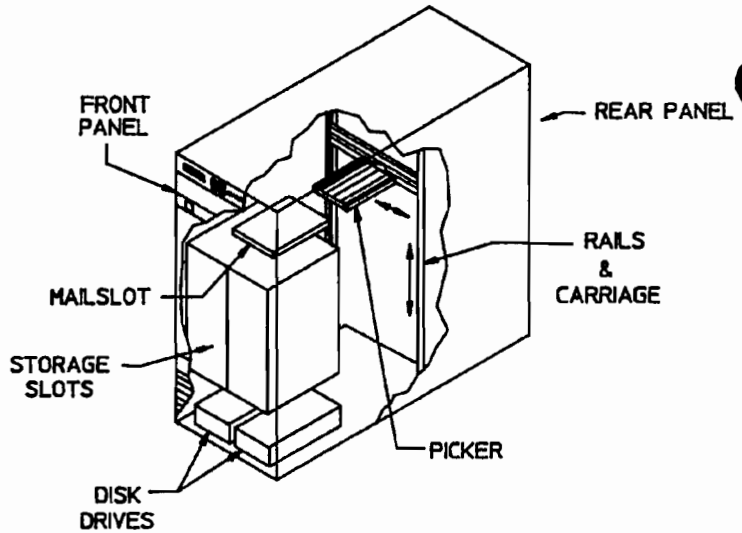

Figure 2-1. Deskside Optical Disk Library Components
1. Disk Drives The Disk Library System contains either one or two optical disk drives for read/write data transfer. Each drive requires a unique SCSI address. When you face the front panel of the deskside version, drive 1 is located on the right side and drive 2 is on the left. When you face the front panel of the rackmount version, drive 1 is located on the top and drive 2 is on the bottom. (See Figure 2-1 or 2-2.)